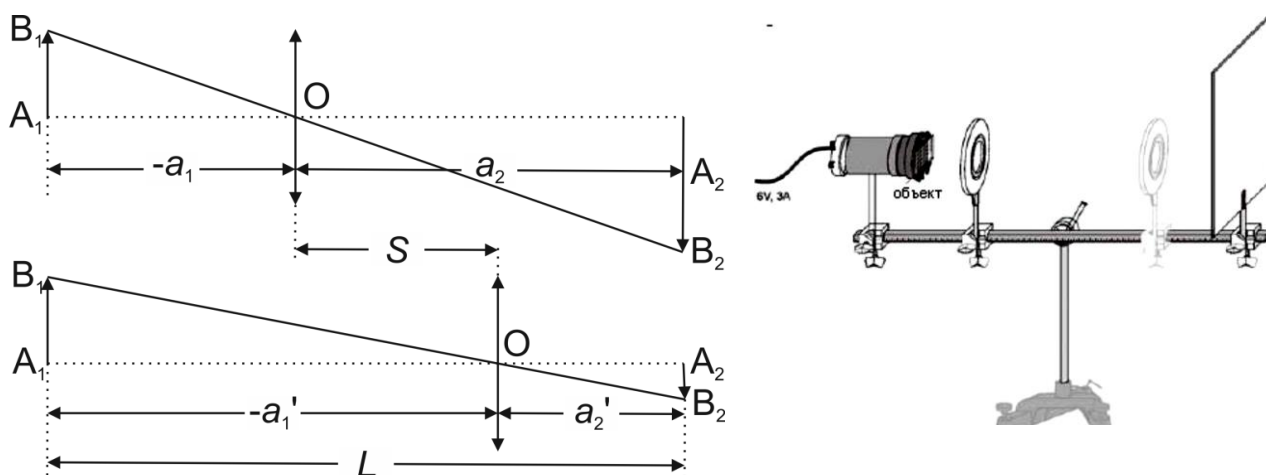

Figure 514.2. Ray diagram (left) and experimental setup (right) for determining the focal length of a converging thin lens by the Bessel's method
If the object and the image are separated by a distance greater than $4f$, then two positions of the lens can be found, one of which gives a magnified, and the other yields a decreased image (Fig. 514.2 (left)). The distance between the screen and the object in this experiment remains constant.
Let us introduce the values $S = (-a_1') - (-a_1)$ and $L = (-a_1) + a_2$ (the meaning of L and S is clear from the sketch in Fig. 514.2). Allowing for Eq. (514.1), we can derive:
3. Install the lens with $f = 100$ mm between the diaphragm and the screen (Fig. 514.2 (right)).